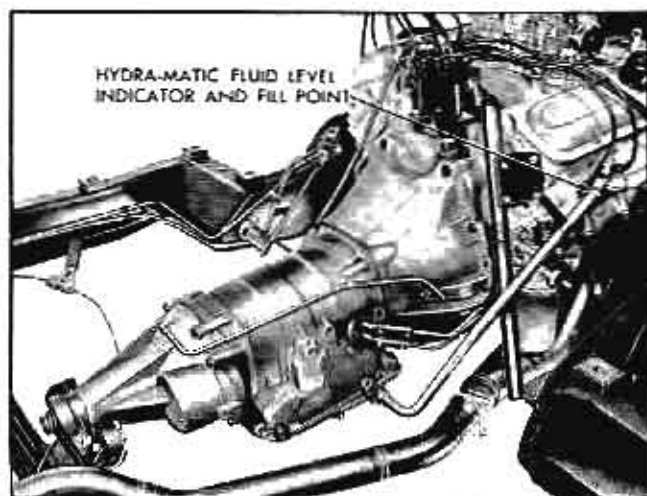
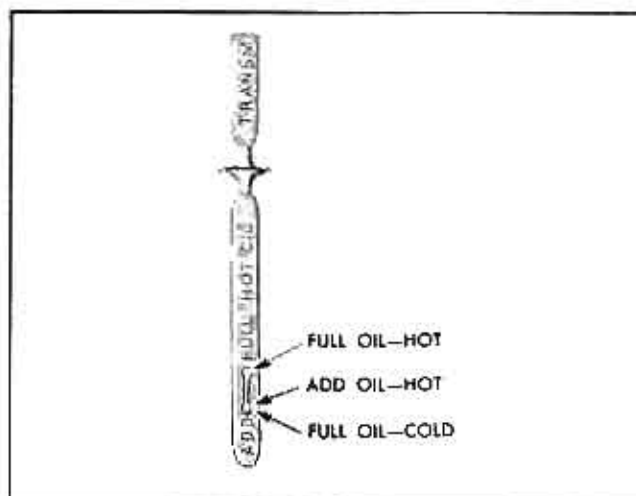

Fig. 38 Fluid Level Indicator
Fig. 39 Indicator Markings
The fluid level indicator is located in the filler pipe at the right rear corner of the engine (Fig. 38). To bring fluid level from lower mark to full mark requires 1 pint (Fig. 39).
2. With engine idling at normal idle speed, check oil level indicator (Fig. 38) and note reading (Fig. 39). **NOTE:** When adding fluid use Automatic Transmission Fluid (Type A) from containers bearing Armour Institute qualification number "AQ-ATF".